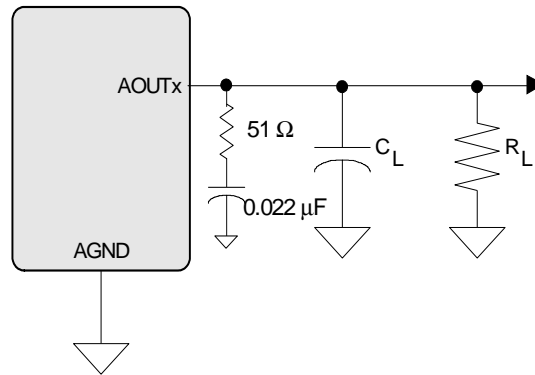

Figure 2. Headphone Output Test Load
5. See Figure 2. R_L and C_L reflect the recommended minimum resistance and maximum capacitance required for the internal op-amp's stability and signal integrity. In this circuit topology, C_L will effectively move the band-limiting pole of the amp in the output stage. Increasing this value beyond the recommended 150 pF can cause the internal op-amp to become unstable.
Test conditions (unless otherwise specified): Input test signal is a full-scale 997 Hz sine wave; Sample Frequency = 48 kHz; Measurement Bandwidth is 20 Hz to 20 kHz; Test load $R_L = 16 \Omega$, $C_L = 10 pF$ (see Figure 2); "Required Initialization Settings" on page 33 written on power up.
Test conditions (unless otherwise specified): Input test signal is a full-scale 997 Hz sine wave; measurement bandwidth is 20 Hz to 20 kHz; Sample Frequency = 48 kHz; Test load $R_L = 10\text{ k}\Omega$, $C_L = 10\text{ pF}$ (see Figure 2); "Required Initialization Settings" on page 33 written on power up.